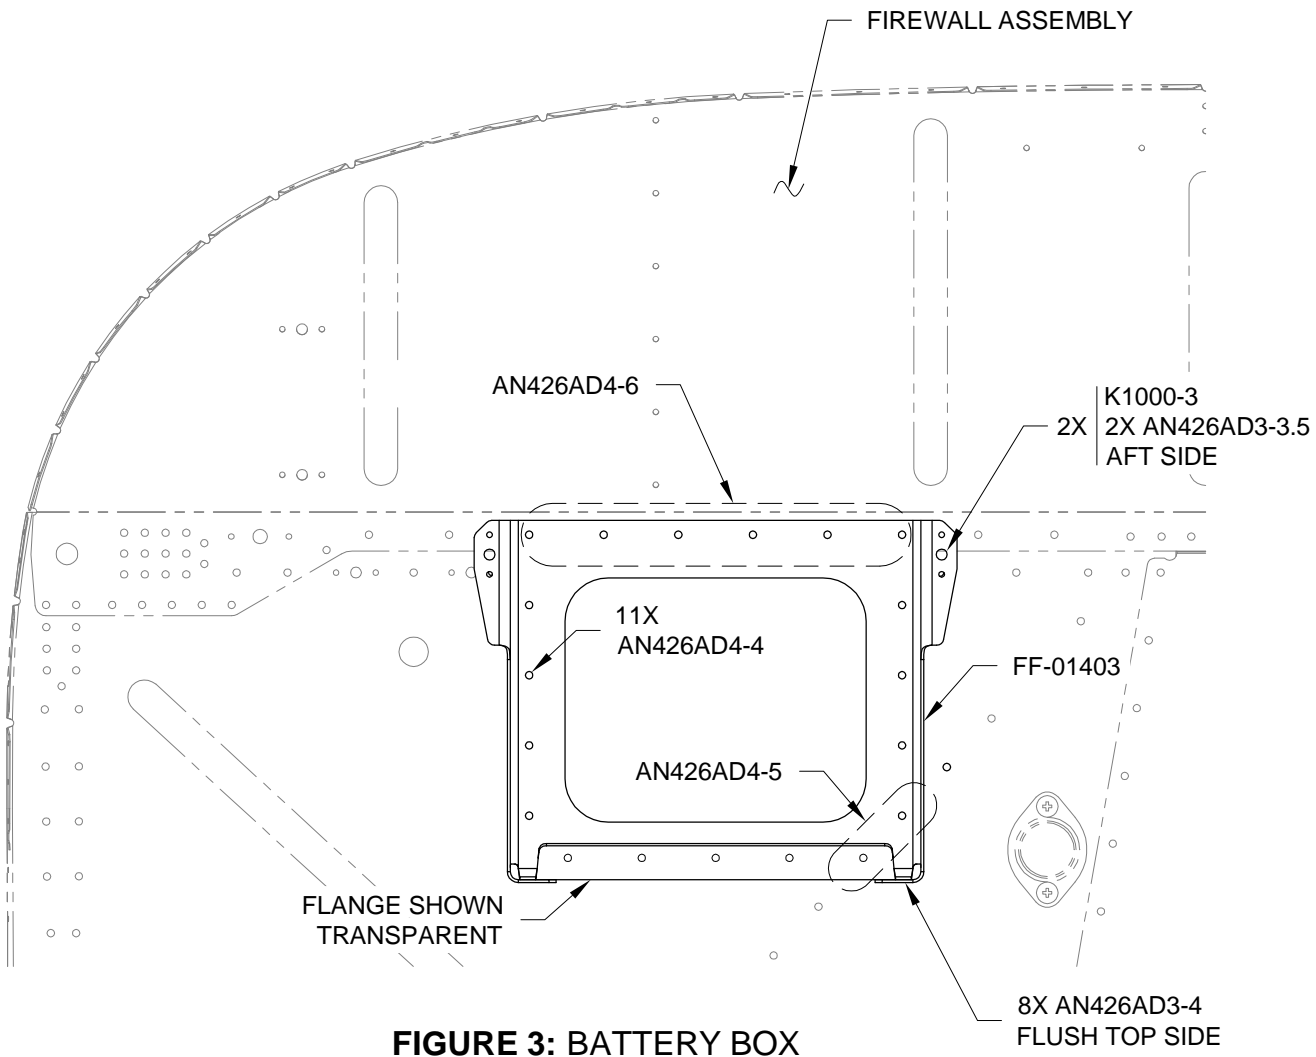

FIGURE 3: BATTERY BOX
Step 3: Machine countersink the holes in the FF-01403 Battery Box for the rivets shown in Figure 3. Use a countersink extension as required. All rivets are flush on the forward side unless otherwise noted.
Step 4: Rivet the nutplates to the aft sides of the FF-01403 Battery Box flanges as shown in Figure 3.
Step 5: Rivet the FF-01403 Battery Box to the forward side of the Firewall Assembly as shown in Figure 3.